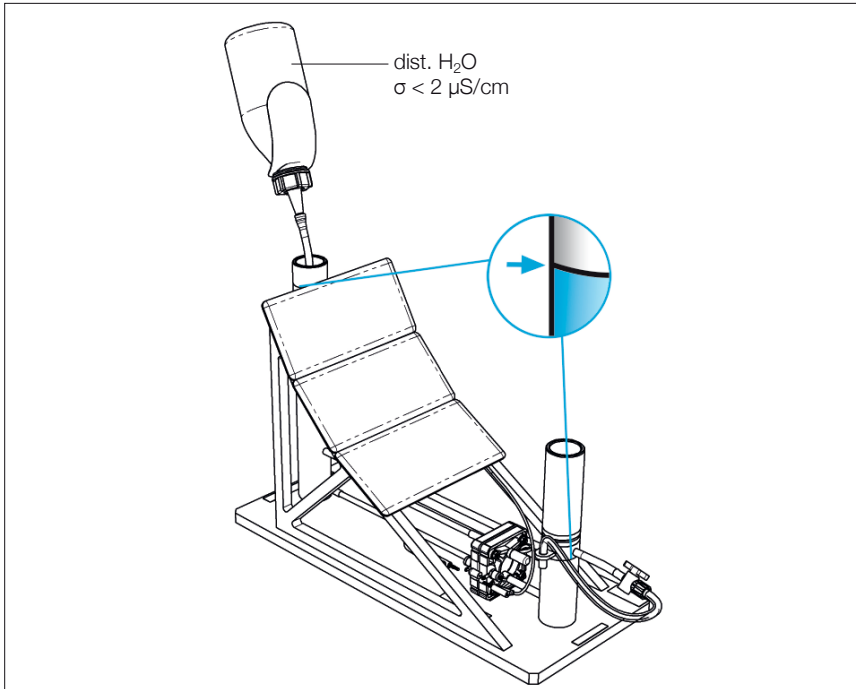

Fig. 4: Filling
- Fill the water reservoir up to the mark with distilled water ($\sigma < 2 \mu\text{S}/\text{cm}$) as shown in figure 4.
- Fill the hydrogen storage tank up to the mark with distilled water ($\sigma < 2 \mu\text{S}/\text{cm}$) as shown in figure 4.